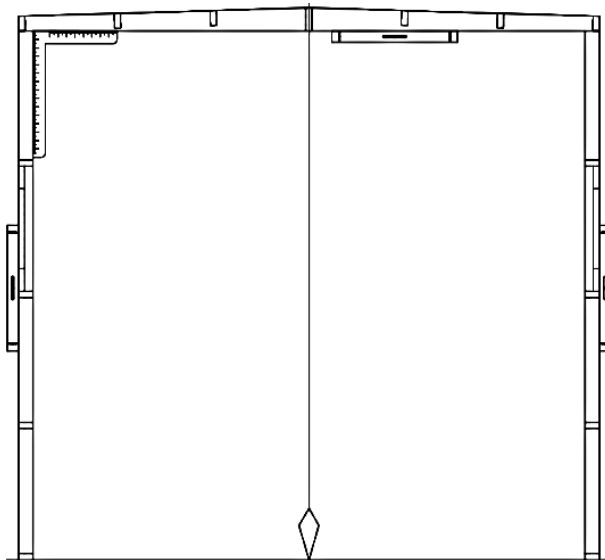

FIG 9A
a. Make sure entire shelter is plumb, level, and square (Figure 9a).